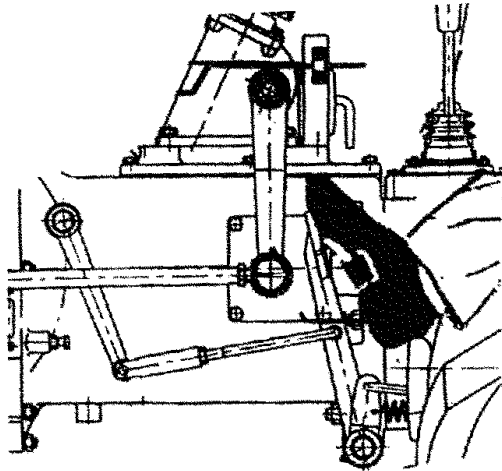
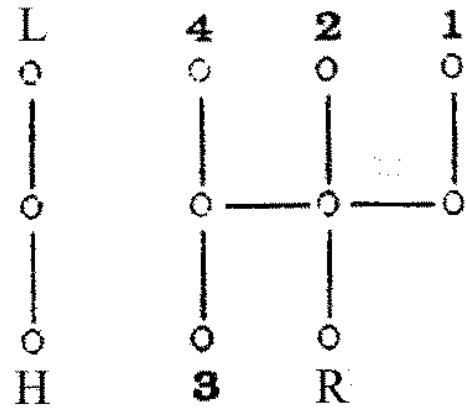

Fig.4-9 Separating the Clutch
Fig.4-10 Gears of the Main and Auxiliary Gearshift Levers
- b. When shifting gears, first of all, step down the clutch pedal to have the clutch disengaged (see fig.4-9). After the tractor stops the gearshift lever of the gearbox should be smoothly put to the required gear positions. If the required gear can not be reached, engage and disengage the clutch again to get the gear. The gear shifting position of gearbox is shown in Fig.4-10.